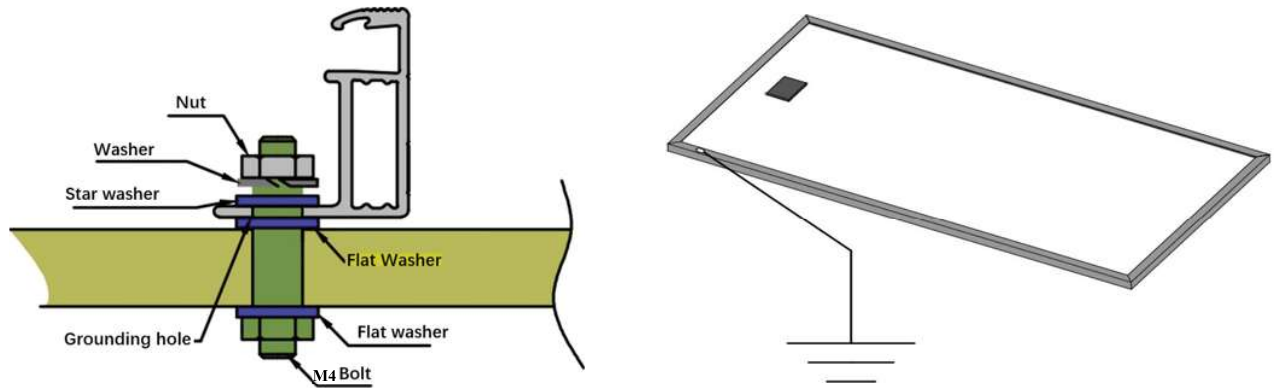

Fig. 5 Ground connection of PV modules
- e) All module frames and mounting racks must be properly grounded in accordance with local and national electrical codes. Attach the equipment grounding conductor to the module frame using the hole and hardware provided. Note that a stainless-steel star washer is used between the grounding wire and module frame (see Figure 5 below). This washer is used to avoid corrosion due to dissimilar metals. Tighten the screw securely, and the tightening torque shall be big enough so that the grounding wire can not be pulled off by hands. Recommended mounting torque value 1.5N*m . Follow the installer's guidance for the grounding installation.